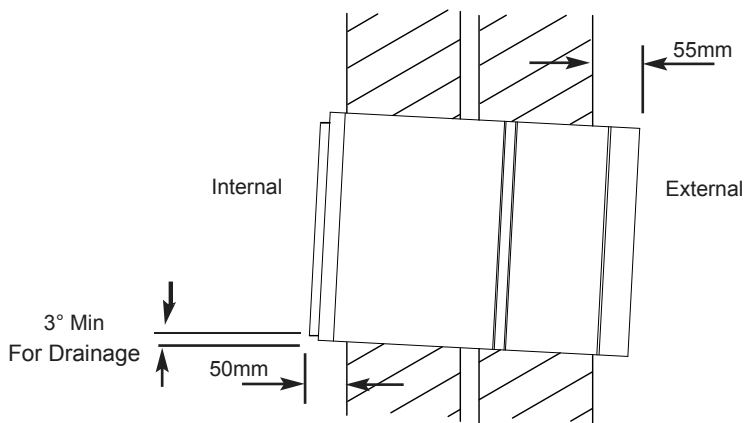

Fig. 5
2. The HR300 requires an overhang internal and external (Fig. 5):